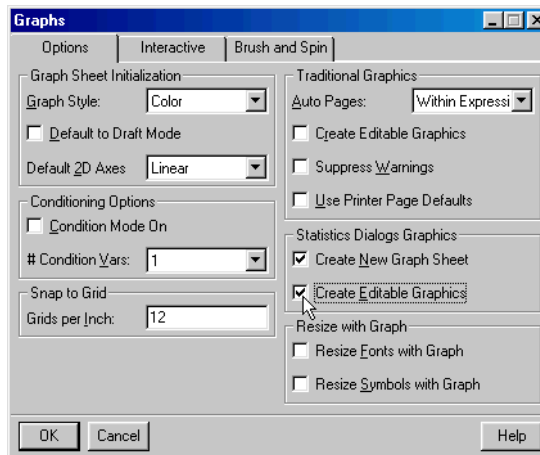

Figure 6.2: The *Options* page of the *Graphs* dialog.
1. From the main menu, choose **Options ► Graph Options**. The **Graphs** dialog opens, as shown in Figure 6.2.